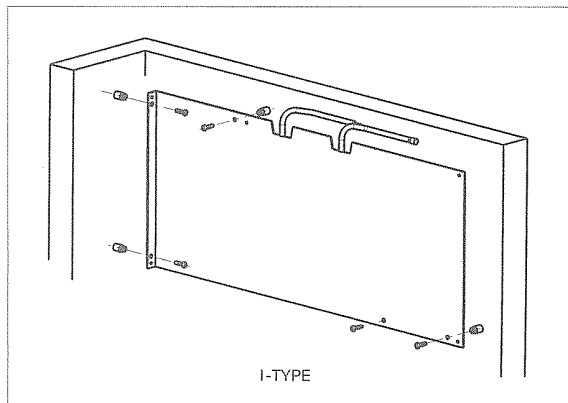

Fig. 6
2. The compressor/condenser case can be easily mounted to the floor mounting brackets and by use of screws or bolts, (Fig 6) Place unit to insure accessibility and good circulation (see paragraph on location).